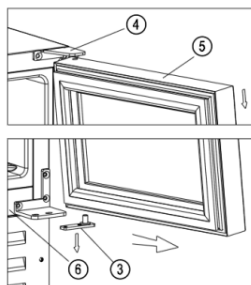

Figure 2
- Pull the door ③ outwards slowly [follow the arrow direction in Figure 2] to get
- The lower hinge ② and continue to pull the door ⑤ downwards slowly until getting off from the top right hinge ④, and take off the lower hinge plate ③ from the door axis hole [Figure 2].#
2. Unscrew the two screws ④ used to fix the lower hinge plate ⑤ at the bottom right corner of the door ③. Take out the door shaft sleeve ⑨ and two decorative screws ⑩ on the top right corner, and install them in the corresponding position on the lower right corner. Then use two screws ④ to install the lower hinge plate ⑤ at the corresponding position on the top right corner [Figure 2].